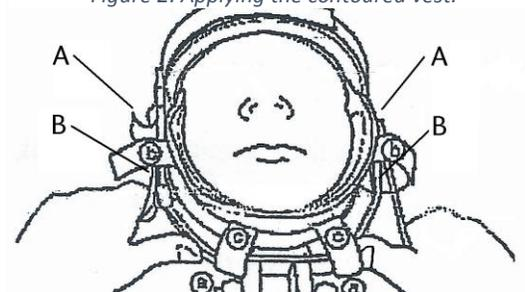

Figure 3: Adjusting the floating chin support.
4. To facilitate fitting the facemask, loosen the two bolts on the rotatable connectors. The facemask has a floating chin support which can be adjusted in length by loosening two plastic clips attached to the uprights. The clips are secured by two hook and pile loops (FIGURE 3, labeled A). Remove the loops and undo the plastic clips to allow adjustment to the chin straps. There are also two additional hook and pile loops (FIGURE 3, labeled B) that tether the distal chin strap to the frame. These should also be removed.